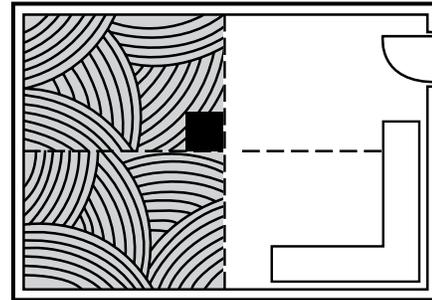
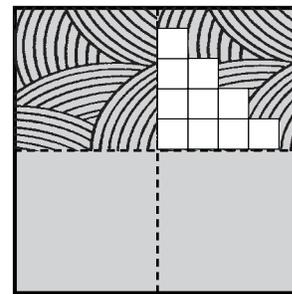

Fig. 6 - Position the first tile at the intersection.
Fig. 7
- Carefully position the first tile in the adhesive at the intersection of the center and perpendicular chalk lines (Fig. 6). The tile will bond instantly upon contact so it must be positioned accurately with out sliding it. Press the tile firmly into the adhesive once it is in position. Install square tiles in the first quadrant along the center and perpendicular lines in a stair step fashion (Fig. 7).